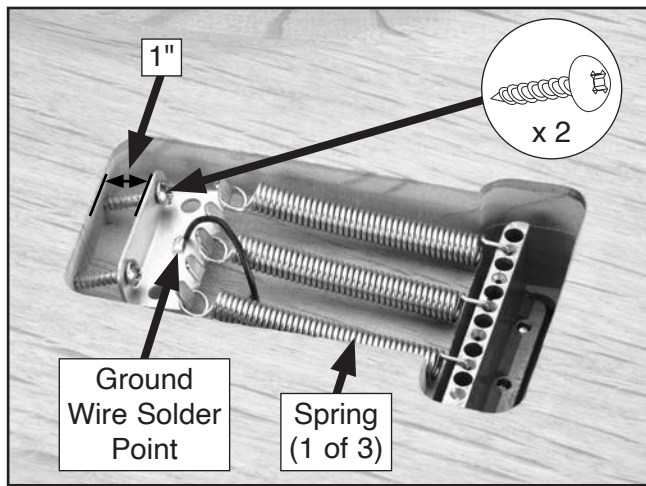

Figure 12. Springs and spring hanger installed, and ground wire soldered to hanger.
6. Secure spring hanger to guitar body with (2) M4 x 50 Phillips head screws, as shown in **Figure 12**. Tighten screws until spring hanger is 1" from wall of cavity.
7. Clean a spot on top of spring hanger to remove grease and dirt, then solder black ground wire from **Step 2** on **Page 9** to spring hanger, as shown in **Figure 12**.
8. Stretch three springs from spring hanger to tremolo bridge, as shown in **Figure 12**.